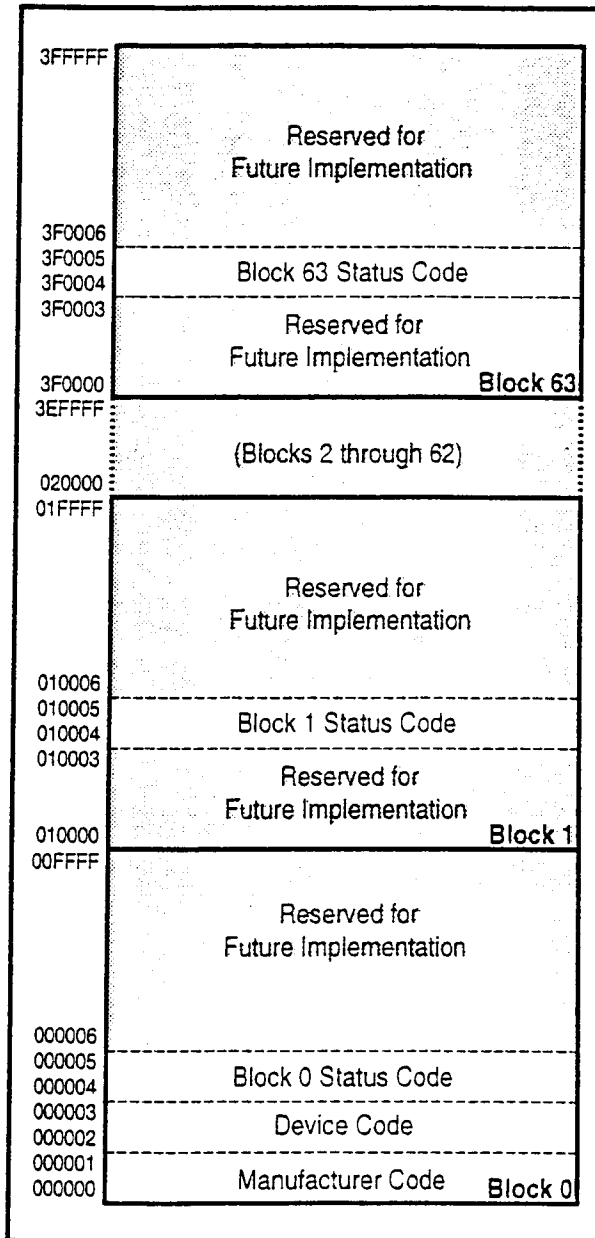

Figure 5. Device Identifier Code Memory Map
The read identifier codes operation outputs the manufacturer code, device code, block status codes for each block (see Figure 5). Using the manufacturer and device codes, the system CPU can automatically match the device with its proper algorithms. The block status codes identify locked or unlocked block setting and erase completed or erase uncompleted condition.
IA=Identifier Code Address: see Figure 5.
The identifier code operation is initiated by writing the Read Identifier Codes command. Following the command write, read cycles from addresses shown in Figure 5 retrieve the manufacturer, device, block lock configuration and block erase status (see Table 5 for identifier code values). To terminate the operation, write another valid command. Like the Read Array command, the Read Identifier Codes command functions independently of the V_{PP} voltage and $RP\#$ must be V_{IH} . Following the Read Identifier Codes command, the following information can be read:
1. X selects the specific block status code to be read. See Figure 5 for the device identifier code memory map.